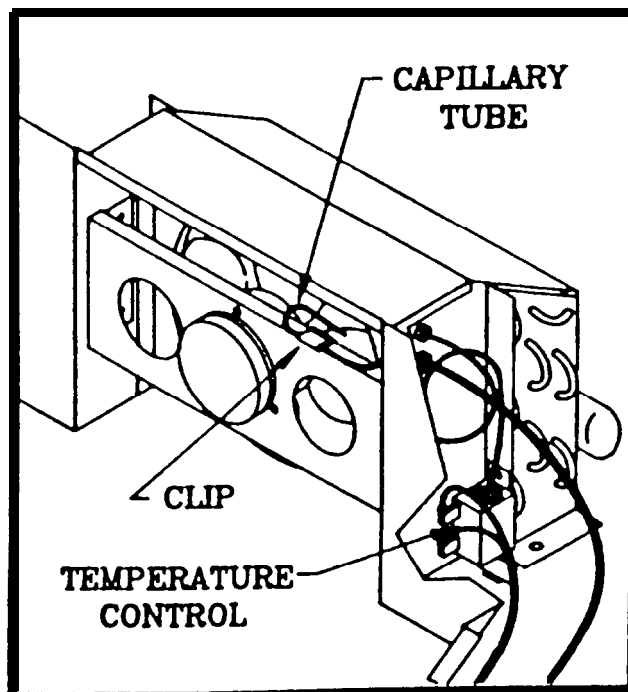

FIGURE 3
- * To ensure correct temperature control operation, it is essential that the control feeler bulb be positioned in the air flow from the evaporator and not resting against any metal surfaces other than the retaining clip. If the bulb is touching any other metal surface you will get a false reading to the temperature control. See figure 3.